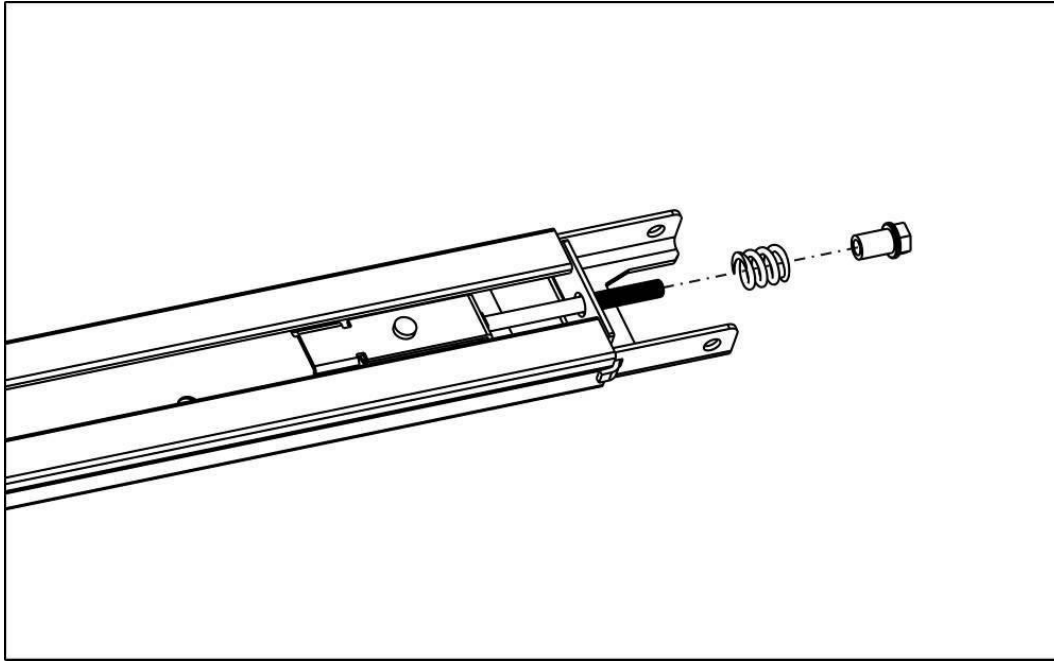

Fig. 10
5. As per Fig.10, undo the nut & spring.